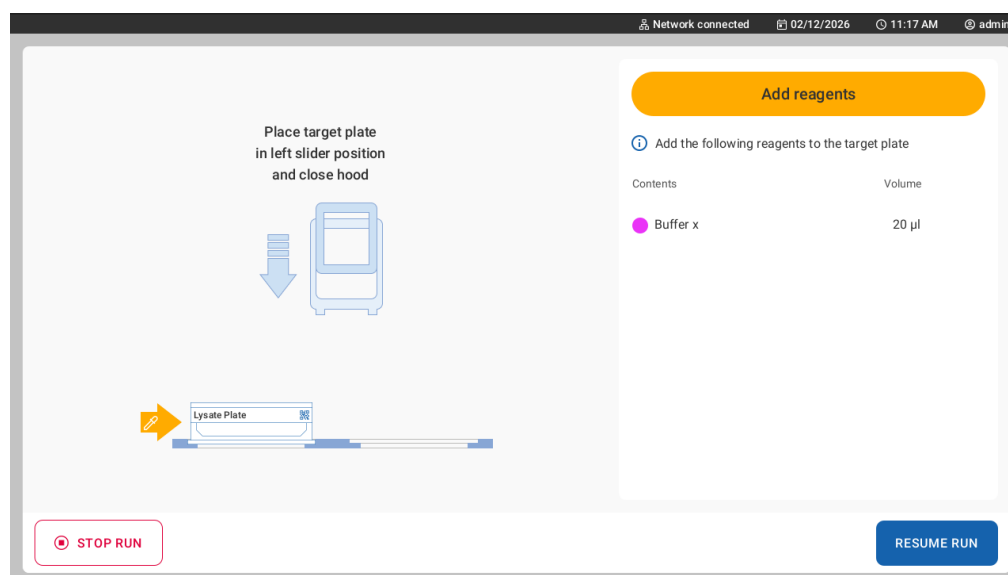

Figure 53. The manual interaction screen.
2. Follow the instruction of the manual interaction screen. The required action depends on the protocol (Figure 53).